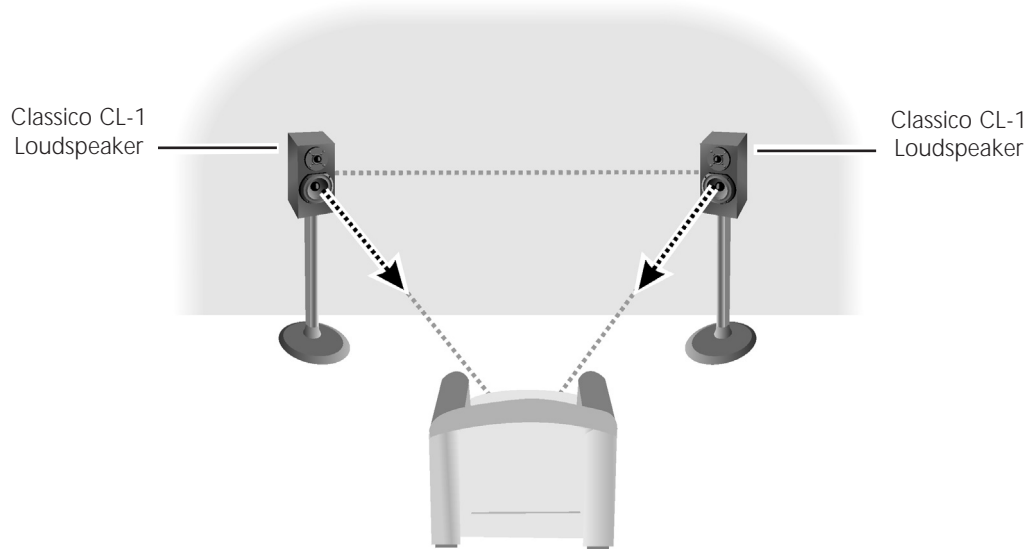
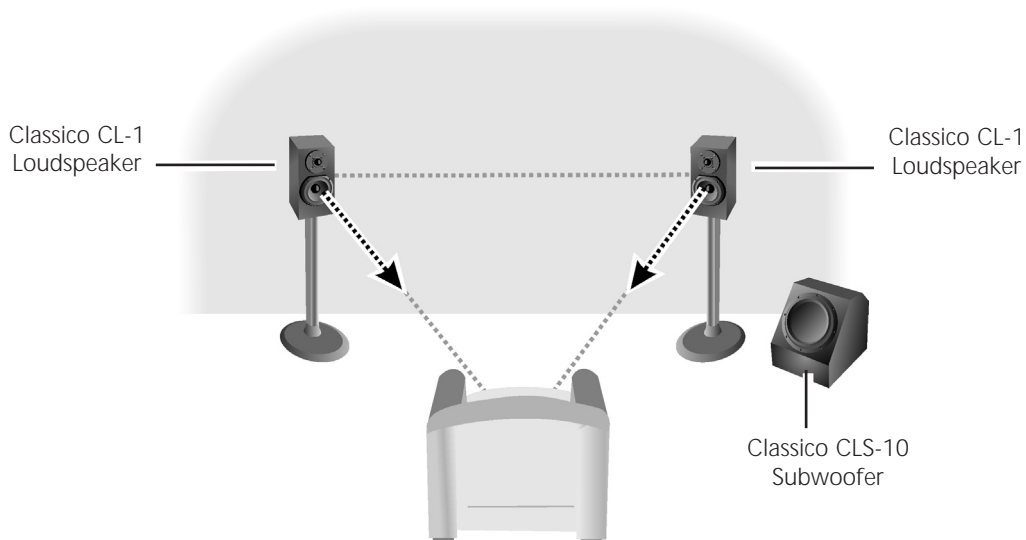
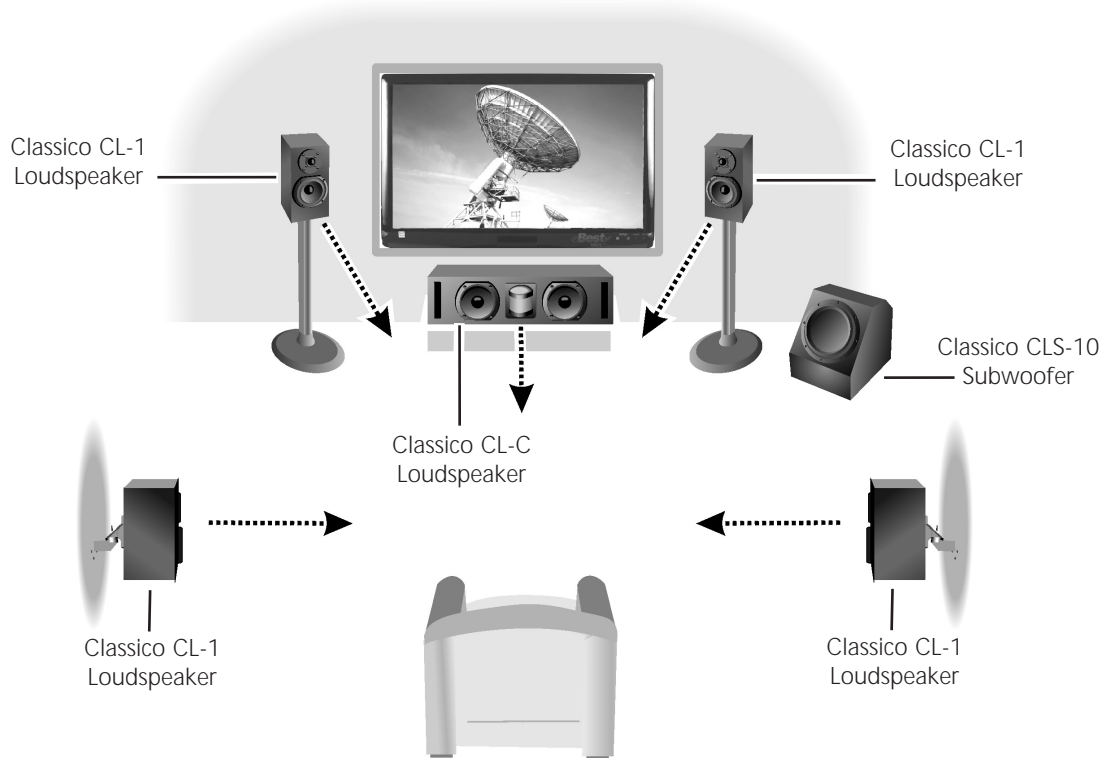

Figure 1. Example of a Stereo (2.0 Configuration) Setup
Figure 2. Example of a Stereo with Subwoofer (2.1 Configuration) Setup
Figure 3. Example of a Surround Sound (5.1 Configuration) Setup
Although they can be mounted at any reasonable height, you'll maximize high-frequency transparency and imaging if the CL-1 is positioned with its tweeter close to or aimed at seated ear height. If the setting lends itself, try positioning the left and right front speakers at the opposite ends of the base of an equilateral triangle whose tip is at the prime listening position (Figure 1). General guidelines suggest a 30- to 45-degree angle from the prime listening position to the L/R speakers, which is particularly for good stereo reproduction.
**System Examples:** An example of a stereo (2.0 configuration) setup using two stand-mounted Classico CL-1s is shown in Figure 1. A stereo system with a subwoofer (2.1 configuration) setup using two stand-mounted Classico CL-1s and a Classico subwoofer is shown in Figure 2. An example of a surround sound with subwoofer (5.1 configuration) setup using two stand-mounted CL-1s, one table-mounted CL-C center loudspeaker, two wall mounted CL-1s for the primary surround channels, and a Classico subwoofer is shown in Figure 3.